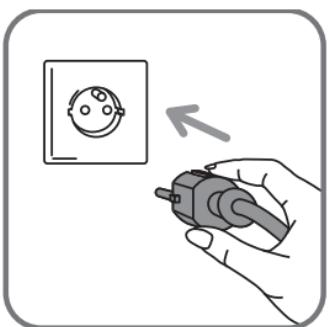

fig.5
- You can plug in your iron fig.5.